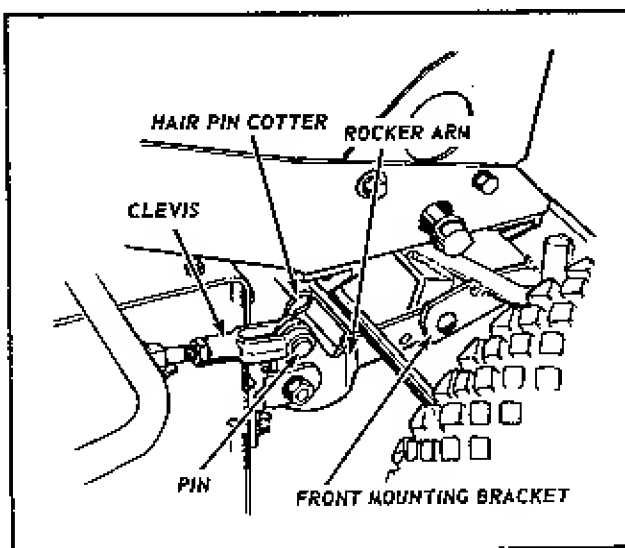

FIG. 2
2. Connect the rocker arms to front mountings brackets under the tractor, by using pins and hair pin cotters as shown in figure 2.